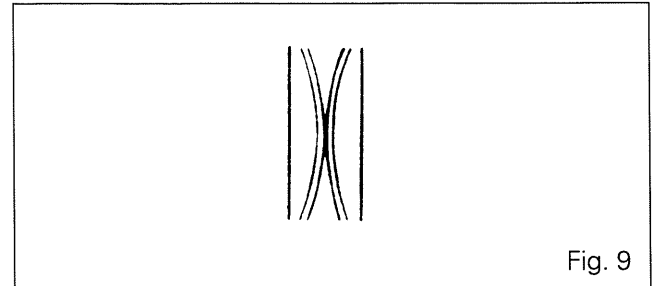
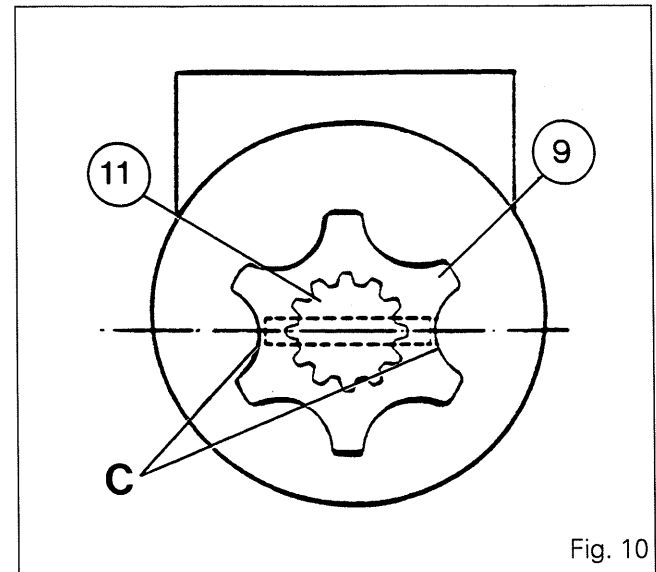
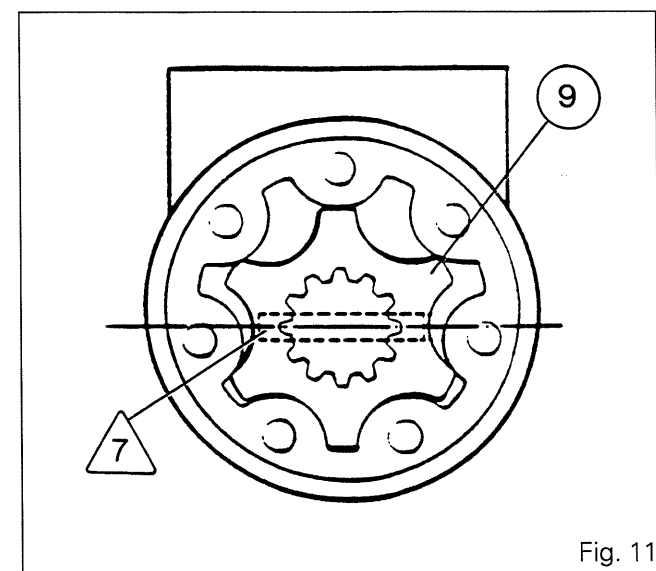

Fig. 9
Fig. 10
Fig. 11
16. Refit the check valve (26).
17. Fit seal /19\, O-ring (19) and bush (15).
18. Place the balls and springs in the recesses for the shock valves (20). Screw in the threaded bush, position the seals and tighten the caps.
19. Place the valve and spring in the recess for the relief valve (18) and screw in the threaded bush. Position the seal and tighten the cap to a torque of 40 to 60 Nm.
20. Insert the spool valve (25) in the sleeve (27). Position the centring springs /13\ as shown in Figure 9 and fit the pin /7\.
22. Fit washers /12\ and (16) with the chamfer on washer /12\ directed towards the centring springs /13\ and with the needle-roller bearing (14) positioned between them.
24. Place the two balls and the two pins in the recesses for the suction valves (23).
25. Place the ball in the recess for the non-return valve (22) and screw in the threaded bush.
26. Position the splined link shaft (11).
27. Fit O-ring (28) and the distributor plate (29).
28. Fit the rotor (9) so that the two hollows «C» are in line with the slot in the splined shaft (11) (Fig. 10). Refit the spacer (10).
29. Place O-rings (5) and (8) on the stator (6).
30. Taking care not to move the rotor (9), fit the stator (6). Then move the stator so that its attachment holes coincide with those of the distribution valve.
**Note: The rotor (9) and pin /7\ must be in the position shown in Figure 11.**
31. Refit the cover plate (4).
32. Refit bolt /2\ (in the position marked during disassembly) and bolts (1) fitted with their seals (3). Tighten them alternately to a torque of 30 to 35 Nm.